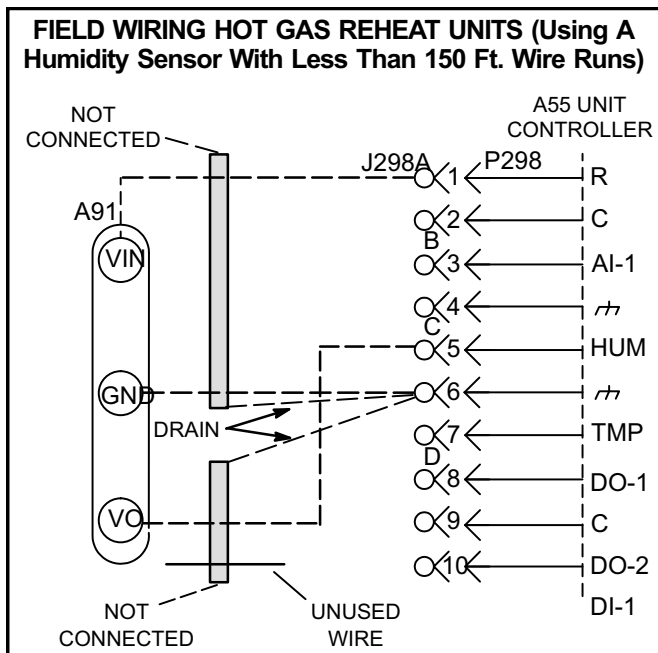
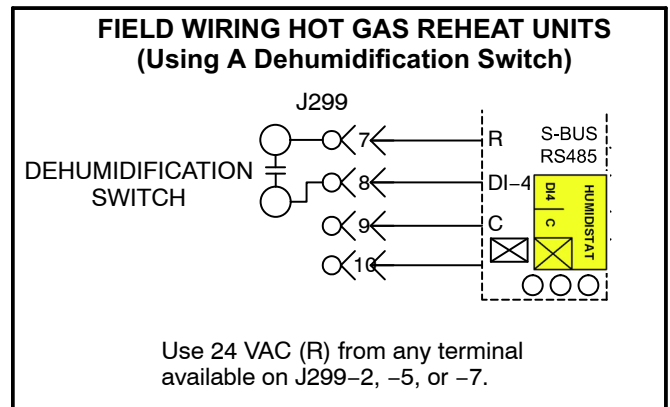

FIGURE 16
FIGURE 18
- 2- Make wiring connections as shown in figure 15 for thermostat mode or figure 14 for room sensor mode. In addition, connect either a humidity sensor or a dehumidification input. See figure 16 or 17 for humidity sensor wiring or figure 18 for dehumidification input wiring.
Use two separate shielded cables containing 20AWG minimum, twisted pair conductors with overall shield. Belden type 8762 or 88760 (plenum) or equivalent. Connect both cable shield drain wires to the Unit Controller as shown in figure 16.
Use two separate shielded cables containing 18AWG minimum, twisted pair conductors with overall shield. Belden type 8760 or 88760 (plenum) or equivalent. Connect both cable shield drain wires to the Unit Controller as shown in figure 16.